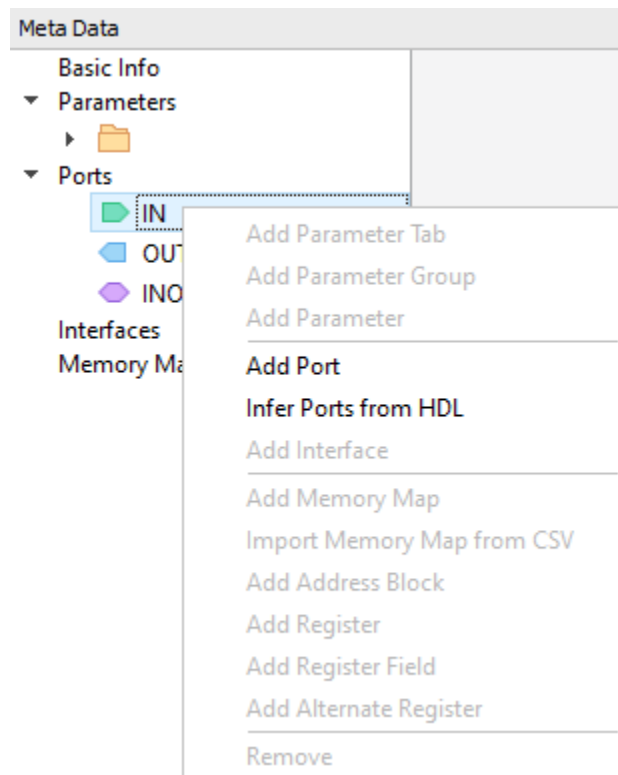

Figure 3.19. Right-click Menu of the IN Port
- Right-click **IN** from the Ports area, and choose **Add Port** (Figure 3.19).